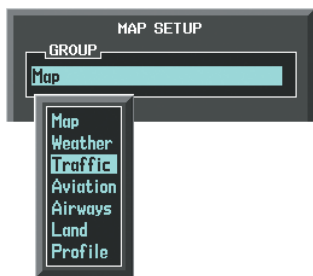

Figure 6-180 Navigation Map Page Setup Menu
- 4) Turn the small **FMS** Knob to select the Traffic Group and press the **ENT** Key (Figure 6-180).